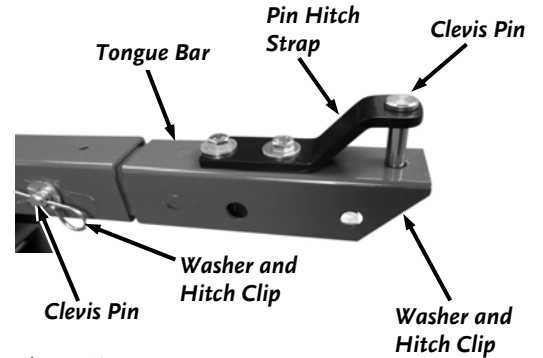

Figure 13
19. Insert the Tongue Bar into the Pitch Bar and secure with the Clevis Pin, 1/2" Washer and Hairpin Cotter Pin (**Figure 13**).